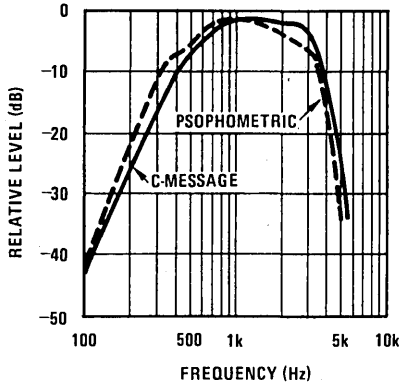

FIGURE 2. C-Message and Psophometric Filter Characteristics (from AT&T "Notes on Distance Dialing")
5. dBmp: This is the absolute power level as measured after a filter which compensates for the characteristics of the human ear. The weighting curve is shown in *Figure 2*. The psophometric filter is normally used for A-law systems only.
6. dBrc: In the USA, the dB is often modified with the suffix rnc. The rn stands for reference noise while the c signifies that the measurement is through a C-message filter (*Figure 2*). By definition,